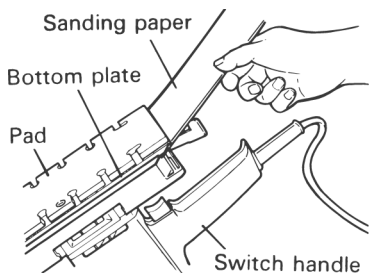

Fig. 3
- (2) Place the sander as shown in Fig. 3. Insert the sanding paper between the paper holder and the bottom plate until it can go on further.
- (3) Match the width of the sanding paper with the width of the pad. Return the clamping lever to it original position to secure the sanding paper.